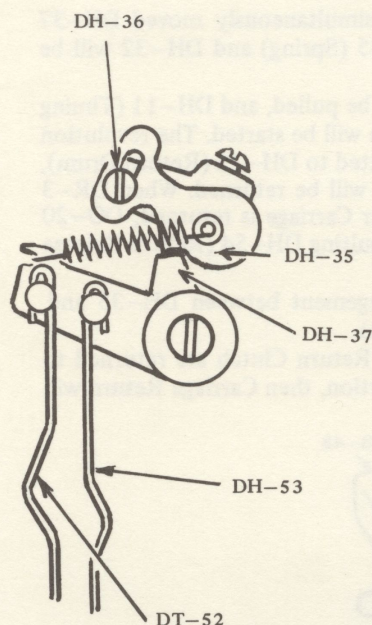

Fig. 46
- (2) Adjust the position of DH-35 (Return Pawl Stopper) with loosening DH-36 (Screw for DH-35) so that DH-37 (Return Pawl) and DH-35 will be engaged when DH-29 (Driving Arm) is operated by hand far to the full operating range of the above mentioned DH-41 (Eccentric Screw). (Fig. 46, 47)
In this adjustment, care should be exercised to eliminate too short DH-53 (Return Release Wire: front) and DH-52 (Return and Tab connecting wire) and distortion against DH-37 because the engagement will not be made correctly under the above mentioned condition. (Fig. 46)